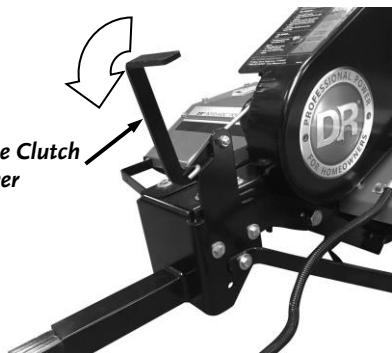

Figure 14
- Pull the Tine Clutch Lever all the way forward until it locks into place to disengage the Tines (**Figure 14**).